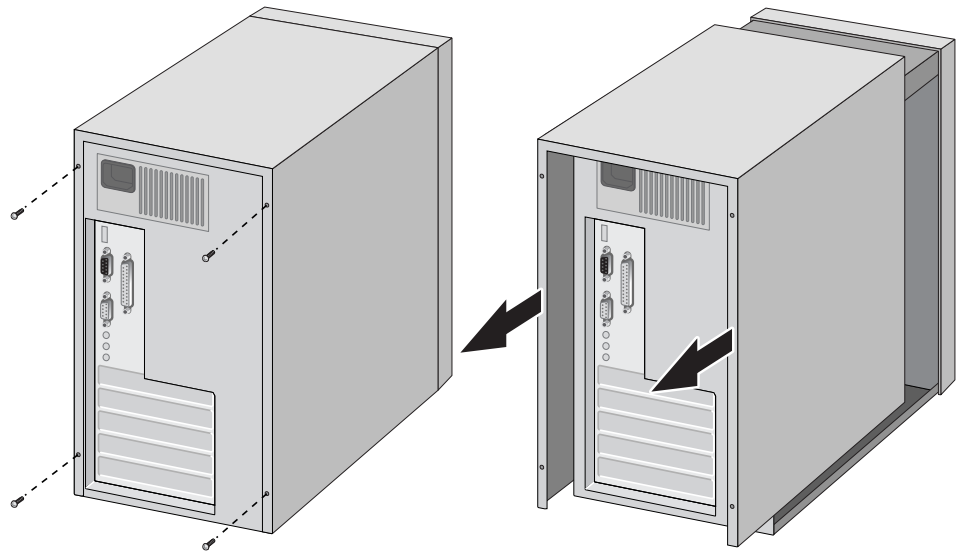

Figure 9. Removing the PC Cover
2. Remove the system cover and select any appropriate empty PCI slot. See Figure 9 on page 30.